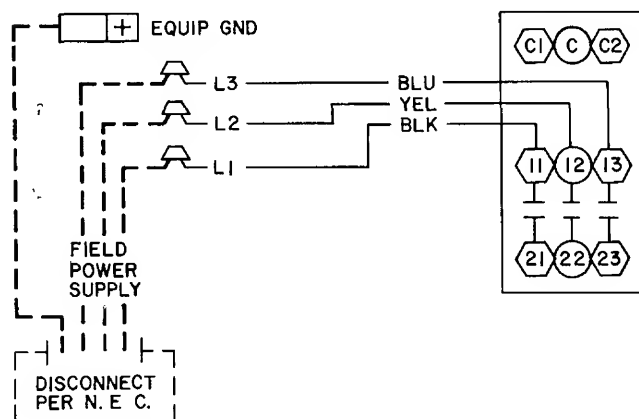

Fig. 6 — Power Wiring Connections
Step 8 — Bring Line Power Leads into Unit — Extend leads from fused disconnect thru hole in back of unit into control box. Connect field power wiring to compressor contactor as shown in Fig. 6.
Step 9 — Connect Ground Lead to a Ground Lug in Control Box for safety. See Fig. 6.